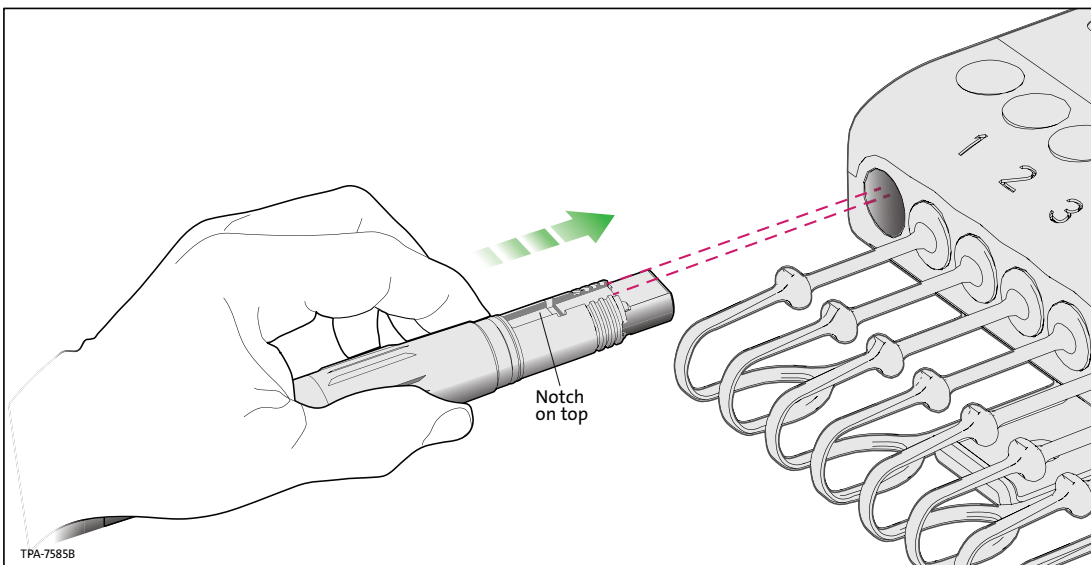

Figure 23
Step 5: Align the notch on top of the connector with the port button on the terminal. (Figure 23)